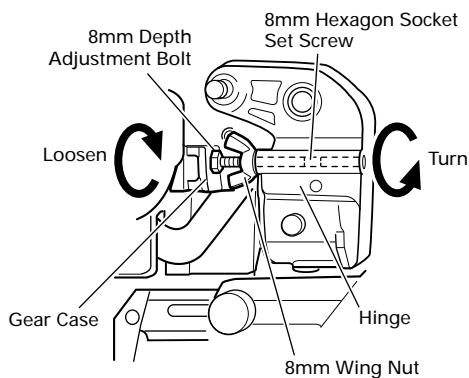

Fig. 10
To adjust the lower limit position of the saw blade, follow the procedures (1) to (4) indicated below. (Fig. 10)
To adjust the lower limit position of the saw blade, follow the procedures (1) to (3) shown in Fig. 10-a.
- (1) Loosen the 8mm wing nut so that the 8mm depth adjustment bolt can be turned by hand.
- (2) Lower the motor head, and thru the 8mm depth adjustment bolt by hand and make adjustments so that there can be a clearance of 3/32" to 1/8" (2mm to 3mm) between the lower limit position of the motor head and the top of the workpiece at the saw blade's lower limit position (where the head of the 8mm depth adjustment bolt contacts the gear case).
- (3) After adjustment, turn the 8mm wing nut until it contacts the Hinge (see Fig. 10), and fully tighten it.